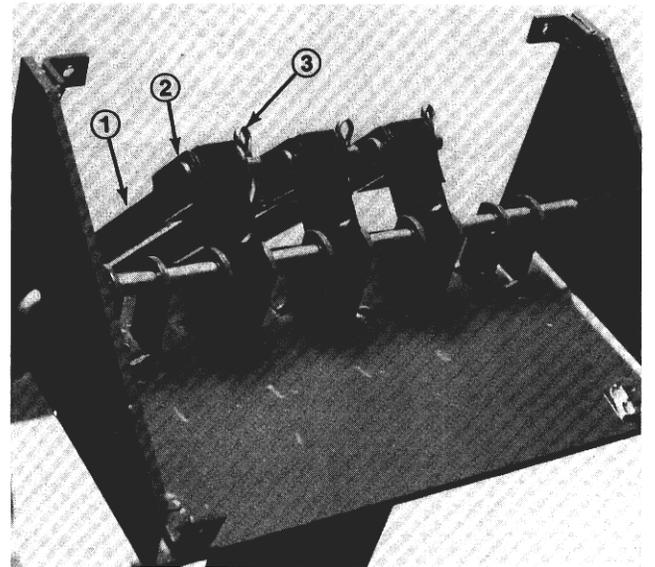

Figure 16
4. Remove locknut and pivot pin securing pivot block levers to control tower (Fig. 16).
5. Install new pivot block levers onto pivot pin while reinstalling pin and existing blocks in control tower (Fig. 16). Secure with locknut. Coat pins with #2 grease.
6. Secure upper control linkage tubes to pivot blocks with clevis pins and cotter pins (Fig. 16). Coat pins with #2 grease.